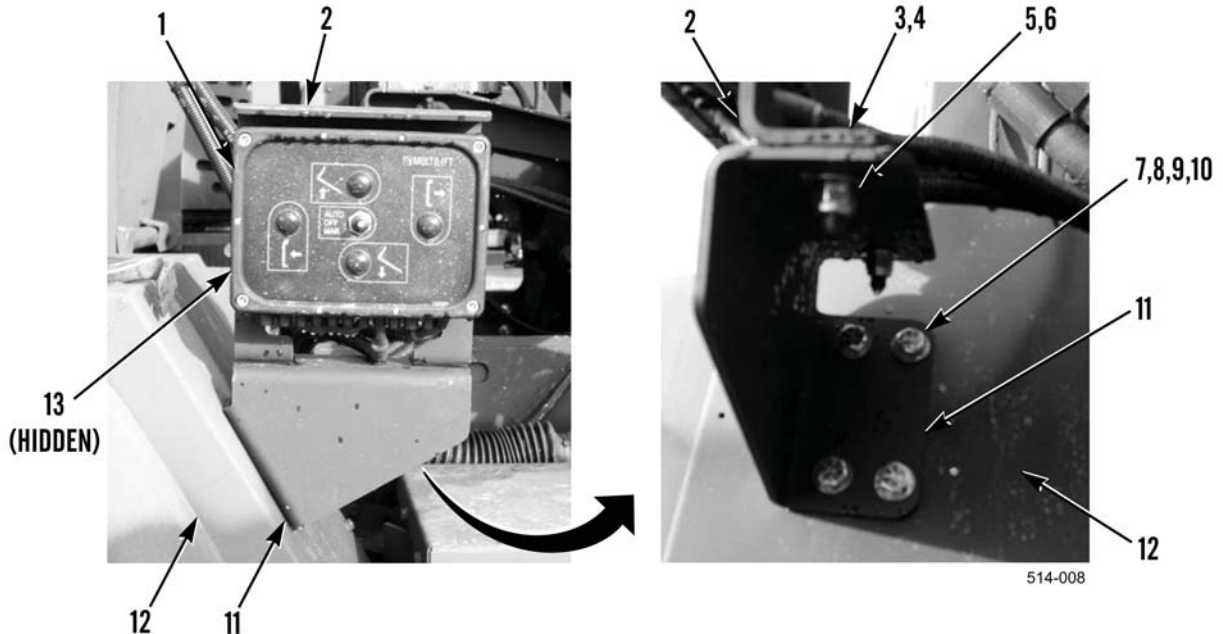

Figure 35. Stowage Control Panel and Bracket.
38. Place stowage control bracket (Figure 35, Item 11) on left-side fender (Figure 35, Item 12) aligning bottom left hole in bracket with hole in fender.
39. Mark location of remaining three holes in bracket (Figure 35, Item 11) on fender (Figure 35, Item 12). Drill three 0.5 in. holes at marked locations.
40. Install stowage control panel bracket (Figure 35, Item 11), four bolts (Figure 35, Item 7), washers (Figure 35, Item 8), washers (Figure 35, Item 9), and locknuts (Figure 35, Item 10) on fender (Figure 35, Item 12).
41. Install stowage control backplate (Figure 35, Item 2) and four bolts (Figure 35, Item 13) on stowage control panel (Figure 35, Item 1).
42. Install stowage control panel backplate (Figure 35, Item 2), two bolts (Figure 35, Item 3), washers (Figure 35, Item 4), washers (Figure 35, Item 5), and locknuts (Figure 35, Item 6) on stowage control panel bracket (Figure 35, Item 11).